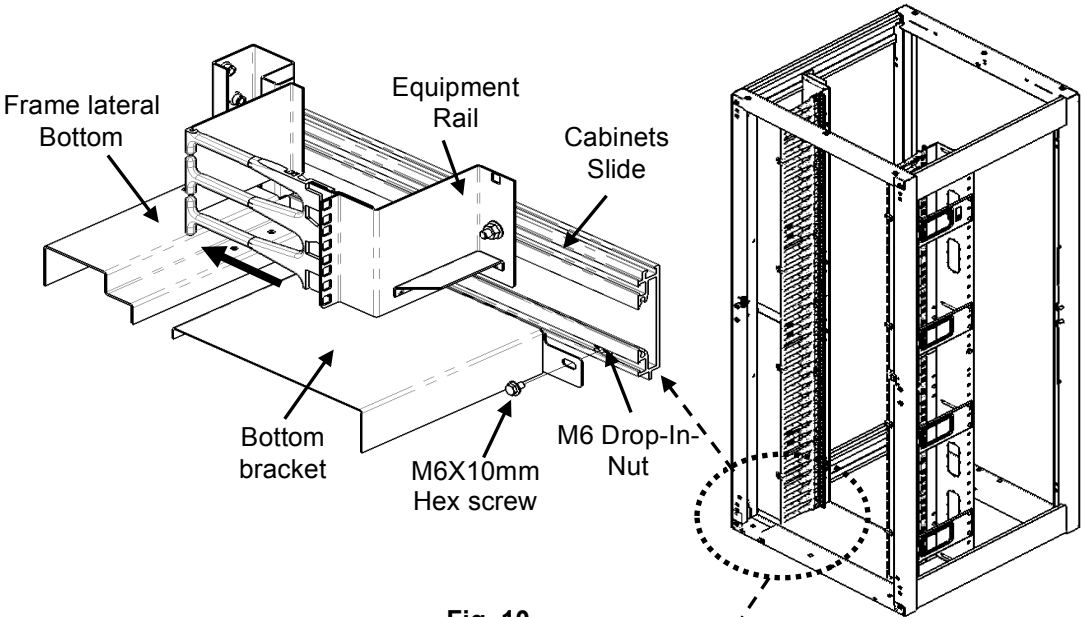

Fig. 10
10. Secure Bottom bracket using M6 screws (Fig. 10).